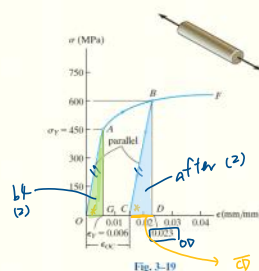

Fig. 3-19
The stress-strain diagram for an aluminum alloy that is used for making aircraft parts is shown in Fig. 3-19. If a specimen of this material is stressed to  $\sigma = 600 \text{ MPa}$ , determine the permanent set that remains in the specimen when the load is released. Also, find the modulus of resilience both before and after the load application.
② **Modulus of Resilience.** Applying Eq. 3-8, the areas under *OAG* and *CBD* in Fig. 3-19 are\*